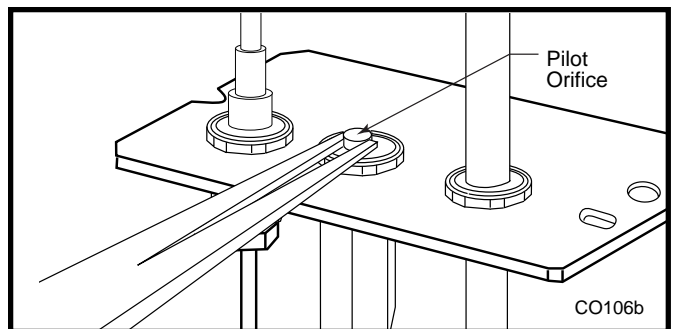

Fig. 74 Remove pilot orifice.
8. Remove injector orifices from left burner leg using 1/2" wrench. (Fig. 74)
- Remove pilot orifice with needlenose pliers. (Fig. 74)